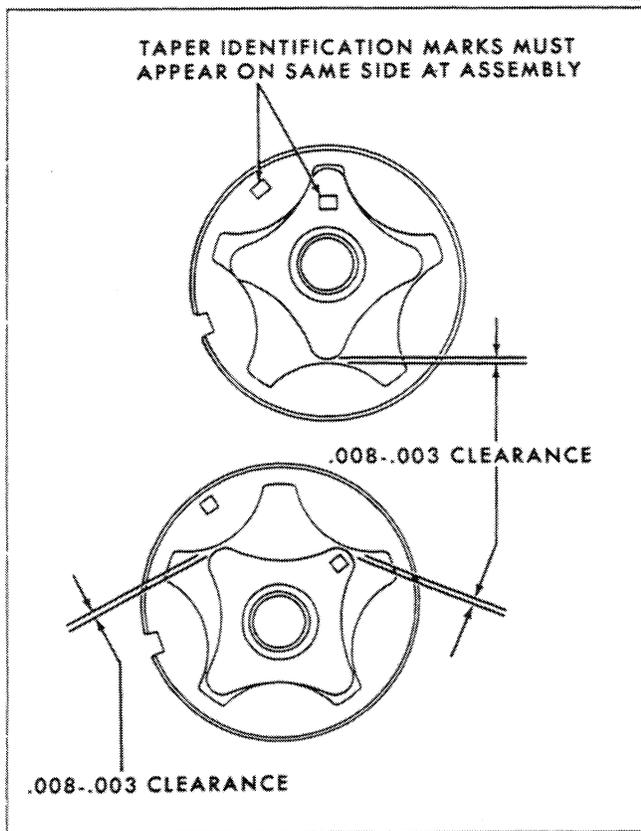

Figure 21
3. Install the rotor and shaft assembly in the housing and check the rotor-to-outer race clearance. With the rotor positioned as shown in Figure 21, the clearance should not exceed .008" at the points indicated.
3. Position the rotor and race assembly in the pump body so the identification dots shown in Figure 21 are both facing outward.